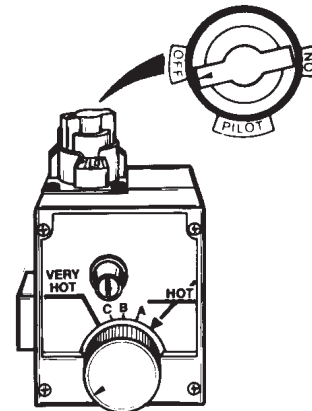
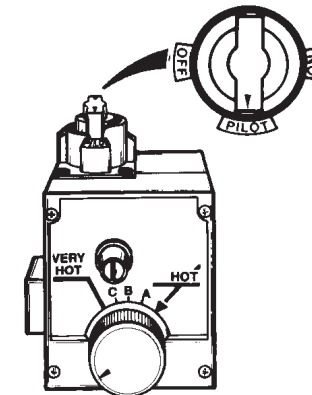
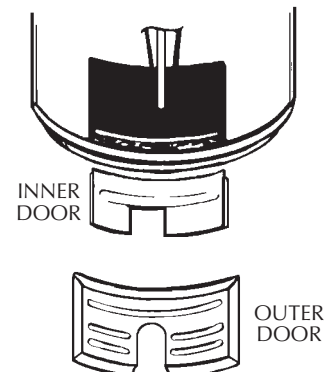

Figure 8
Figure 9
Figure 11
4. Turn gas control knob clockwise (↻) to "OFF" position. Knob cannot be turned from "PILOT" to "OFF" unless knob is depressed slightly. **DO NOT FORCE.** (Figure 8)
5. Wait five (5) minutes to clear out any gas. If you then smell gas, **STOP!** Follow "B" in the safety information above on this label. If you don't smell gas, go to the next step.
6. Remove (or open) inner door located below the gas control unit. (Figure 11)
8. If you don't smell gas, turn knob on gas control counter clockwise (↺) to "PILOT" position. (Figure 9)
9. Push in control knob all the way and hold down. Immediately light the pilot with a match. Continue to hold control knob in for about one (1) minute after the pilot is lit. Release knob and it will pop back up. Pilot should remain lit. If it goes out, repeat steps 4 through 9.
- If the pilot will not stay lit after several tries, depress and turn the gas control knob clockwise (↻) to "OFF" and call your service technician or gas supplier. (Figure 8)
10. Replace (or close) inner door. Replace outer door if door does not cover gas control on/off knob or temperature adjustment knob. (Figure 11)
2. Turn gas control knob clockwise (↻) to "OFF" position. Knob cannot be turned from "PILOT" to "OFF" unless knob is depressed slightly. **DO NOT FORCE.** (Figure 8)